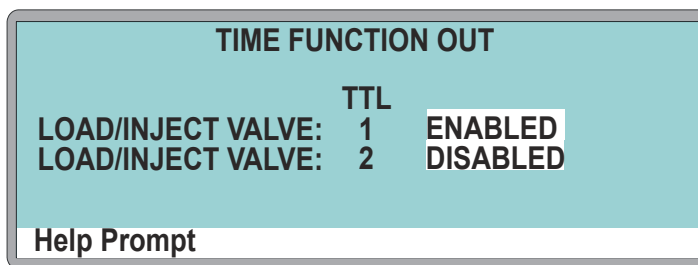

Figure B-41. AS50 Time Function Out Screen
1. On the AS50 front panel, press **Menu** and **0** to go to the **TIME FUNCTION OUT** screen (see Figure B-41). In the **LOAD/INJECT VALVE: TTL 1** field, select **ENABLED**.